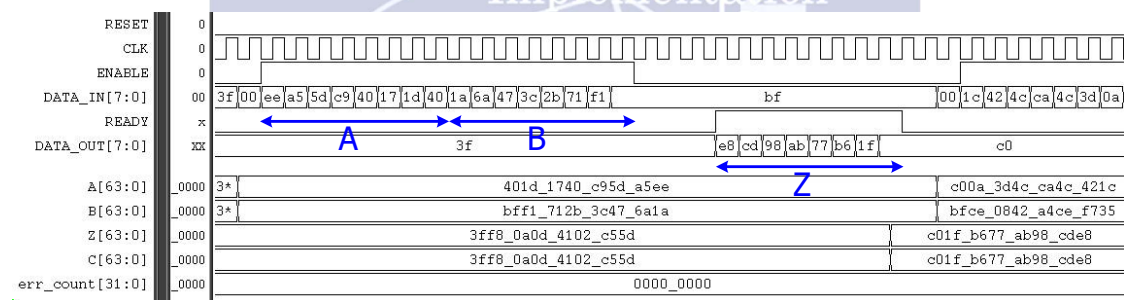

Fig. 1: Referenced timing diagram.
double-precision numbers, it takes 16 clock cycles to input them to the multiplier. Also, for each double-precision number, the lower bytes are inputted first. The detailed input timing diagram is shown in Fig. 1.
8. As you start to output, the **READY** should be activated to "high". It takes 8 cycles to output the result. The lower bytes should be outputted first. In Fig. 1, **Z[63:0]** means the output result of your floating multiplier. This result is compared with the corrected result **C[63:0]** to check if your design is correct.